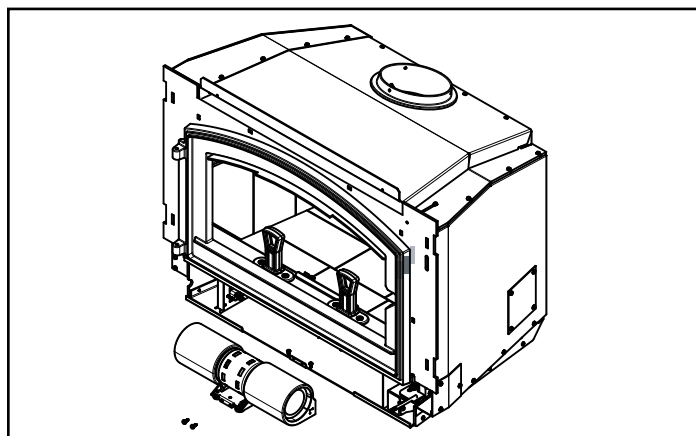

Figure 5.4
4. Disconnect the wires from the blower (**Figure 5.4**).